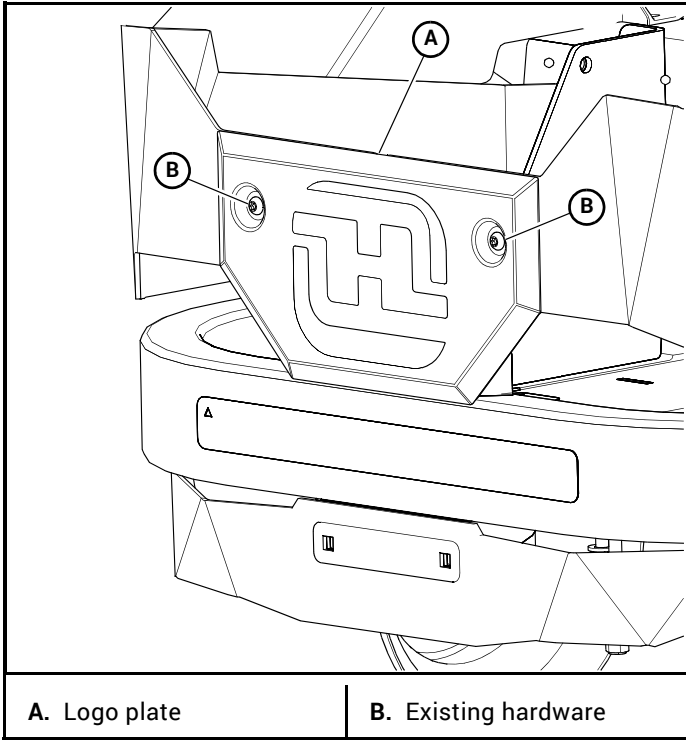

Figure 3-2
6. Remove the logo plate and hardware. Keep the logo plate and hardware to reinstall if the catcher is removed from the mower. Figure 3-2